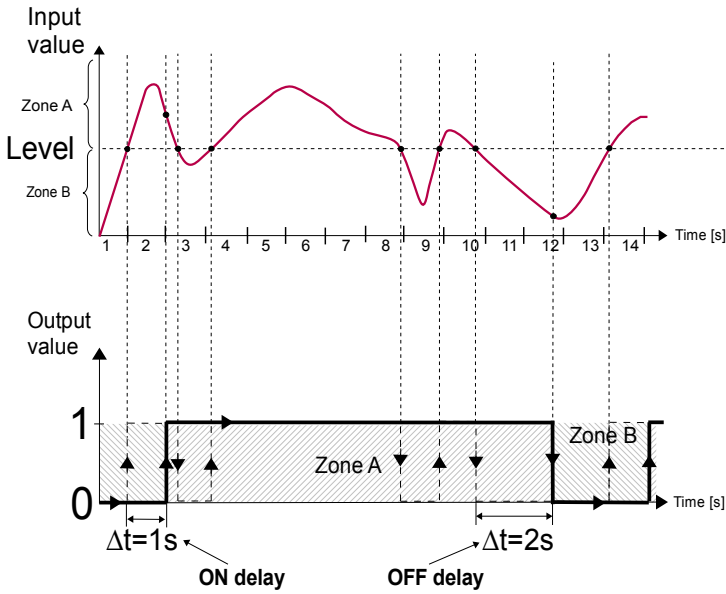

Fig. 7.83. Principle of relay output operation for sample timing settings:
- **ON delay** - this parameter allows the setting of the time that must pass from the time of exceeds **Level** value until the output switch from low to high state (see Fig. 7.83),
- **OFF delay** - this parameter allows the user to set the time that must pass from the time of exceeds **Level** value until the output switch from high to low state (see Fig. 7.83),